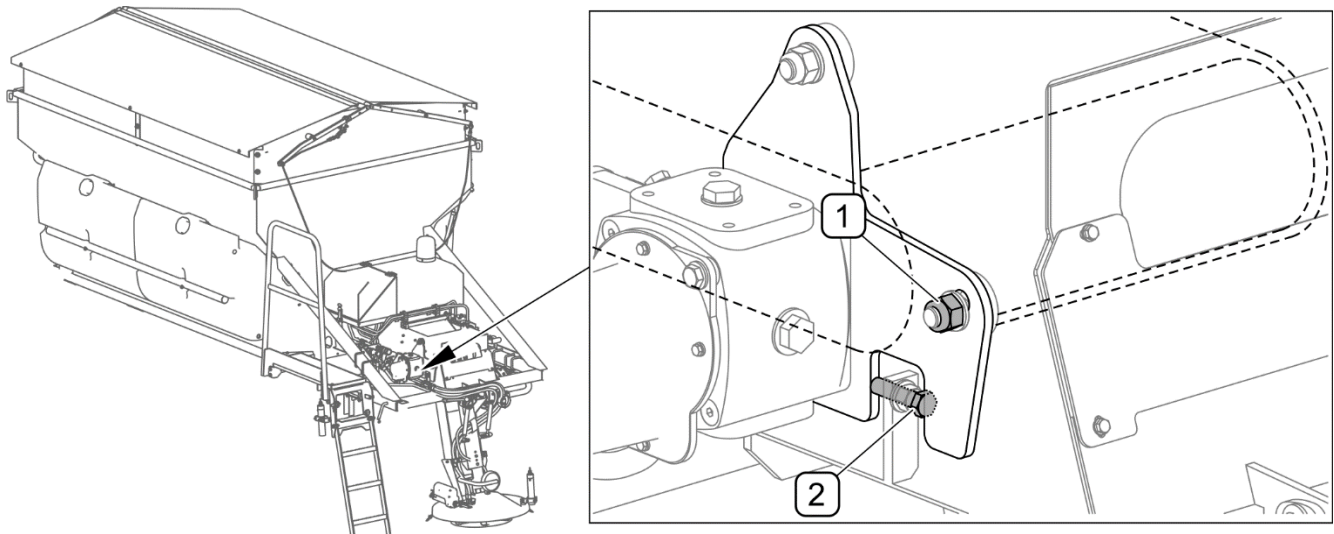

FIG. 5.6 Adjustment of drive roller
(1) - locking nut; (2) - adjusting screw
If the conveyor belt is shifted sideways to the edge of the conveyor drive roller (FIG. 5.6), make proper adjustment of the roller. The adjustment is made only on one side of the conveyor using bolt (2) by changing the position of the roller drive transmission bracket. Start the carrying vehicle's external hydraulic circuit that supplies the machine. Activate "Unloading" function in "Counters" menu on the control panel. A detailed description can be found in section 4.9 UNLOADING. Loosen nut (1) and position the belt in the middle of the roller by means of adjustment bolt (2). During the adjustment, make one turn of bolt (2) and wait for some time to see the effect of the adjustment. Repeat the activity until moving conveyor belt is positioned in the middle of the conveyor roller. After adjustment, disengage conveyor drive, tighten nut (1).